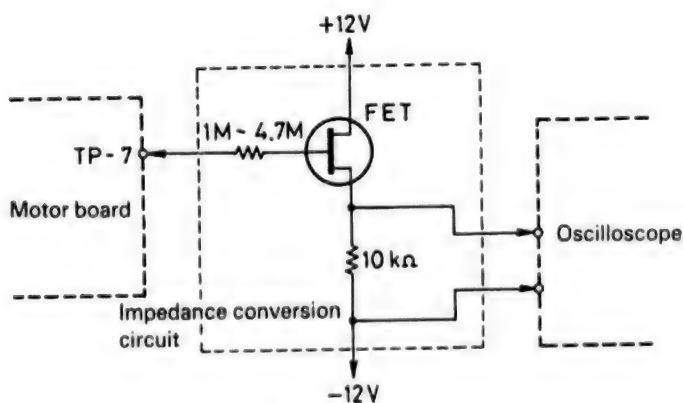

Fig. 21
1. Prepare an impedance conversion circuit as shown in Fig. 21.